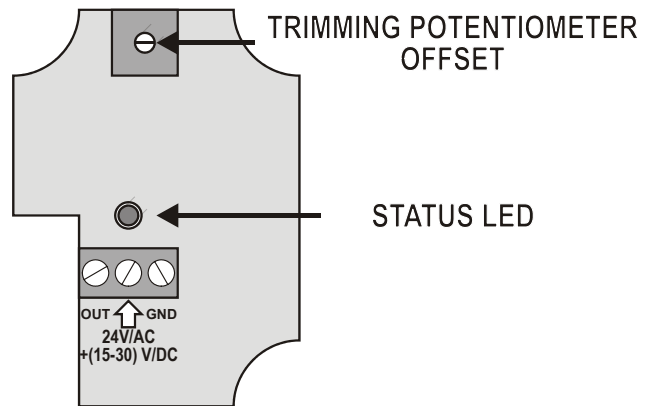

Fig. 4 Wiring Connection and Trimming Potentiometer
The output signal is adjusted using the trimming potentiometer located on the sensor board (see Fig. 4). The offset of the output signal is increased or lowered by means of this potentiometer.
3. After approx. 30 minutes of operation, one must verify the output signal. The voltage level should lie in the range 1...3 V. Correct an excessively high or excessively low voltage level using the trimming potentiometer: The potentiometer should be turned to counterclockwise until the red status LED (located on the sensor board, see Fig. 4) is almost extinguished. The output signal will then amount to approx. 0.7 V.